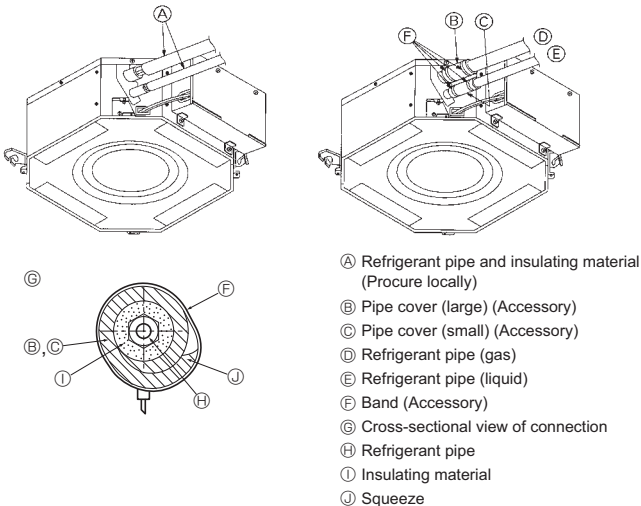

Fig. 5-4
- (C) Do not apply refrigerating machine oil to the screw portions. (This will make the flare nuts more apt to loosen.)
- (D) Be certain to use the flare nuts that are attached to the main unit. (Use of commercially-available products may result in cracking.)
- (E) Apply refrigerating machine oil over the entire flare seat surface.
5.3. Indoor unit (Fig. 5-4)